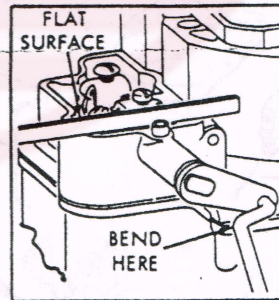

Figure 3
VI. PUMP ADJUSTMENT. (See figure 3.)
- Hold a straight edge across top of dust cover housing, next to the pump arm. The flat surface of the pump arm should be parallel to the straight edge. Adjust by bending throttle connector rod at deepest angle as shown in figure 3.